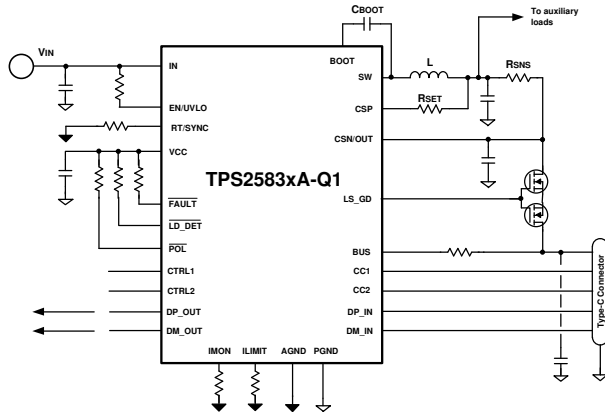

图 10-16. TPS2583xA-Q1 Current Limit With External MOSFET
- With external MOSFET 图 10-16:
3. Typical R_{ILIMIT} resistors value are listed in 图 10-16, given the condition $R_{SNS} = 15 \text{ m}\Omega$ and $R_{SET} = 300 \text{ }\Omega$.
The TPS2583xA-Q1 has integrated NFET gate drivers and can support current limit with external NFET. Refer to 图 10-16.